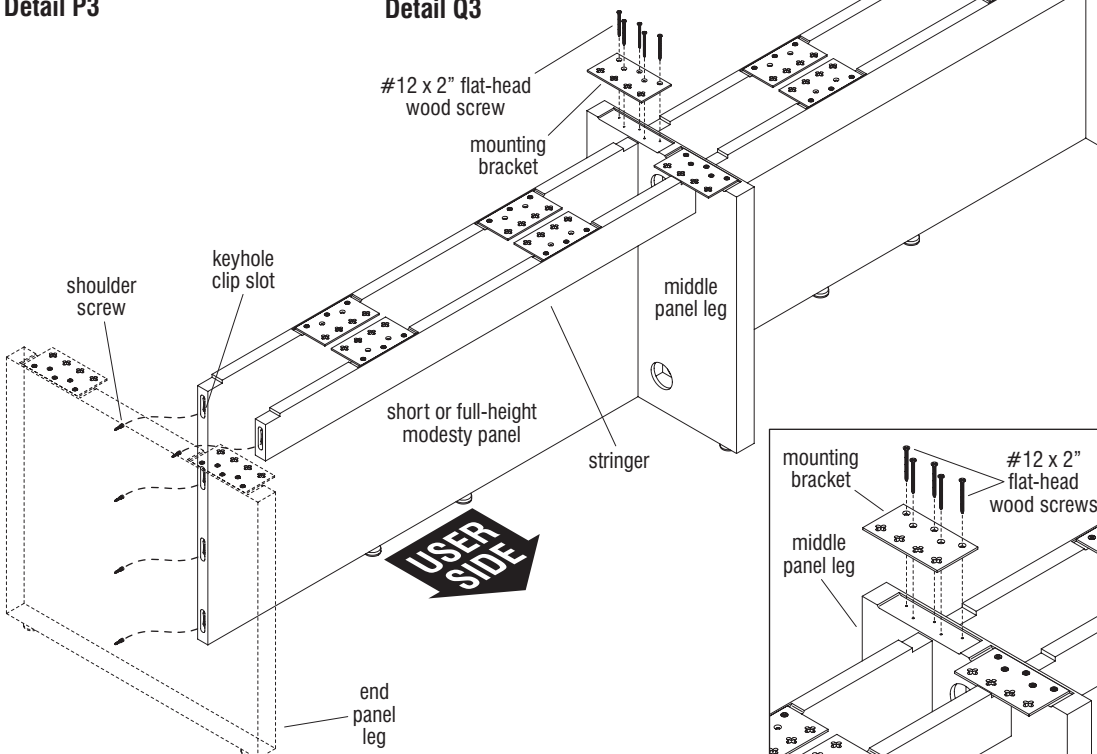

Figure 30
keyhole slots on the open end of the short modesty panel, full-height modesty panel and/or stringer if present (Figure 30 & Detail N3). Press the modesty panel (and stringer if present), against the end panel leg, slightly elevated so the head of each shoulder screw rests in the larger opening of the keyhole slots (Detail O3). Next, press the modesty panel (and stringer if present), down squarely to engage the screws with the smaller end of the keyhole slots (Detail P3).
3. Locate two mounting bracket cutouts at the top of the middle panel leg. Position a mounting bracket over one cutout and align the five mounting holes on the bracket with the five pilot holes in the cutout. Secure the bracket to the panel leg using five #12 x 2" flat-head wood screws. Repeat this process to secure the remaining bracket to the middle panel leg (Figure 30 & Detail R3).